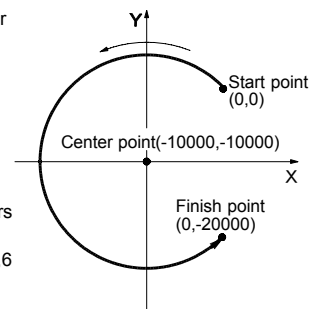

Fig.2 Example of CCW circular interpolation
[Setting procedure for the operation of Fig.2]
- ~ ④ Same as Fig.2